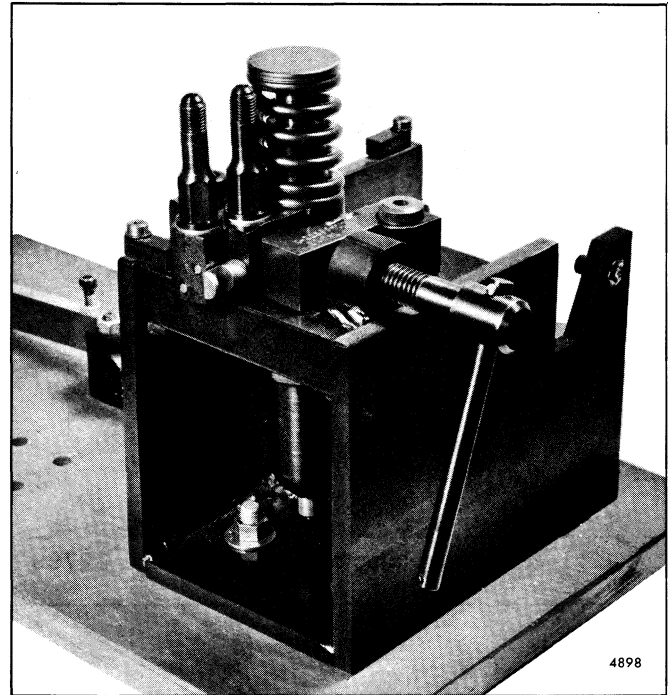

Fig. 9 - Removing Filter Cap
1. Support the injector upright in injector holding fixture J 22396 (Fig. 9) and remove the filter caps, gaskets and filter.